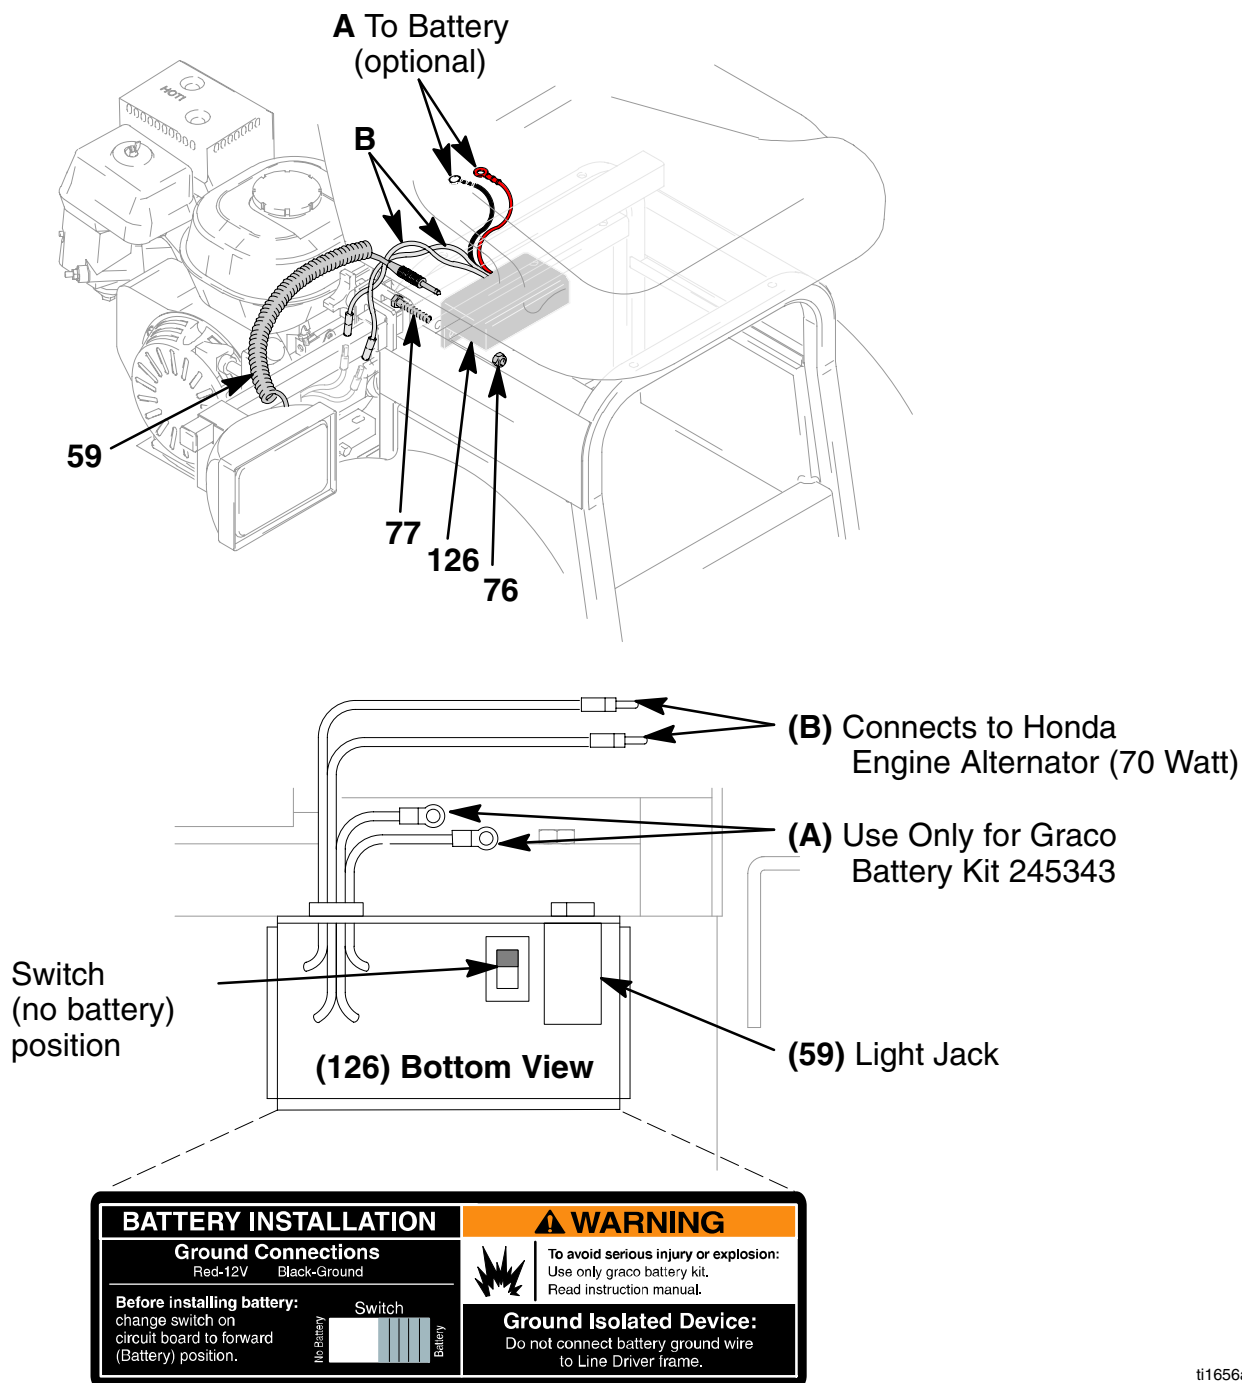
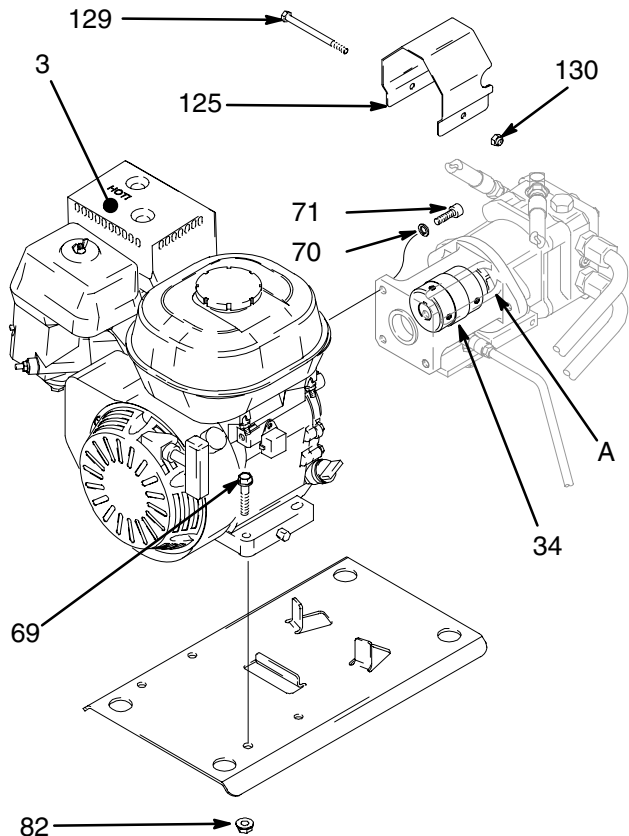

Fig. 5
Fig. 6
1. Fig. 5. Unplug light cord (59) and disconnect leads (A, B).
2. Remove bolt (77) and nut (76) and regulator (126).
1. Fig. 5. Install regulator (126) with bolt (77) and nut (76).
2. Connect leads (A, B) and plug in light cord (59).
1. Fig. 6. Remove cap screw (129), lock nut (130) and coupler guard (125).
2. Remove set screw (A) from flexible coupling (34).
3. Fig. 5. Disconnect all necessary wiring.
4. Remove four cap screws (70) and washers (71).
5. Fig. 6. Remove four engine mounting screws (69), lock nuts (82) and engine (3).
1. Fig. 6. Remove four engine mounting screws (69), lock nuts (82) and engine (3). Torque to 200 in-lb (22.6 N•m).
2. Install four washers (71) and cap screws (70).
3. Fig. 5. Connect all necessary wiring.